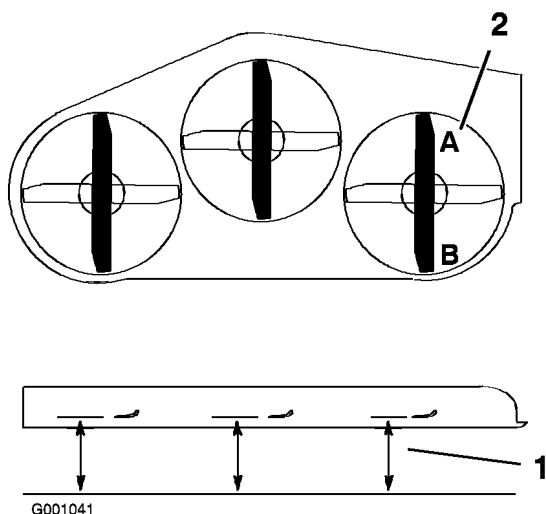

Figure 63
- Position one blade front-to-rear (Figure 63). Measure at **A** and **B** locations (Figure 63) from a level surface to the cutting edge of the blade tips (Figure 63).
4. Position the blades front-to-rear. Measure at **C** and **D** locations (Figure 63) from a level surface to the cutting edge of the blades.